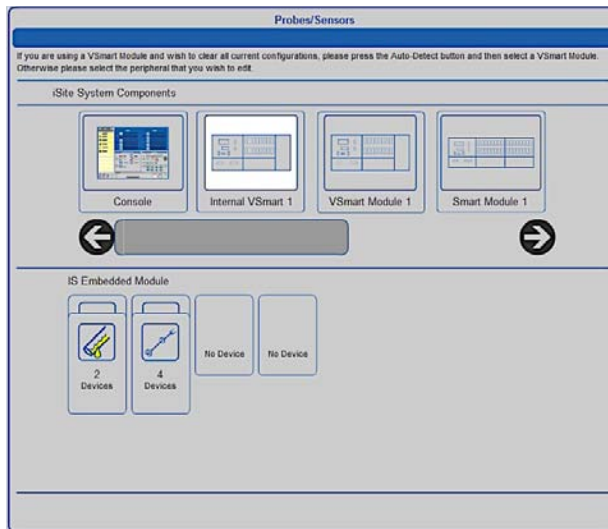

Figure 1-12 Multi-Dropped Devices
The multi-drop function is indicated as a pair of device icons with a number indicating how many devices are connected per one (1) multi-drop position. Multi-drop function is shown in Figure 1-12 Multi-Dropped Devices: